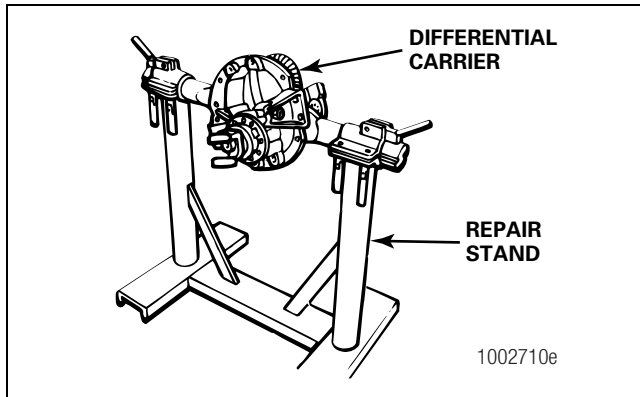
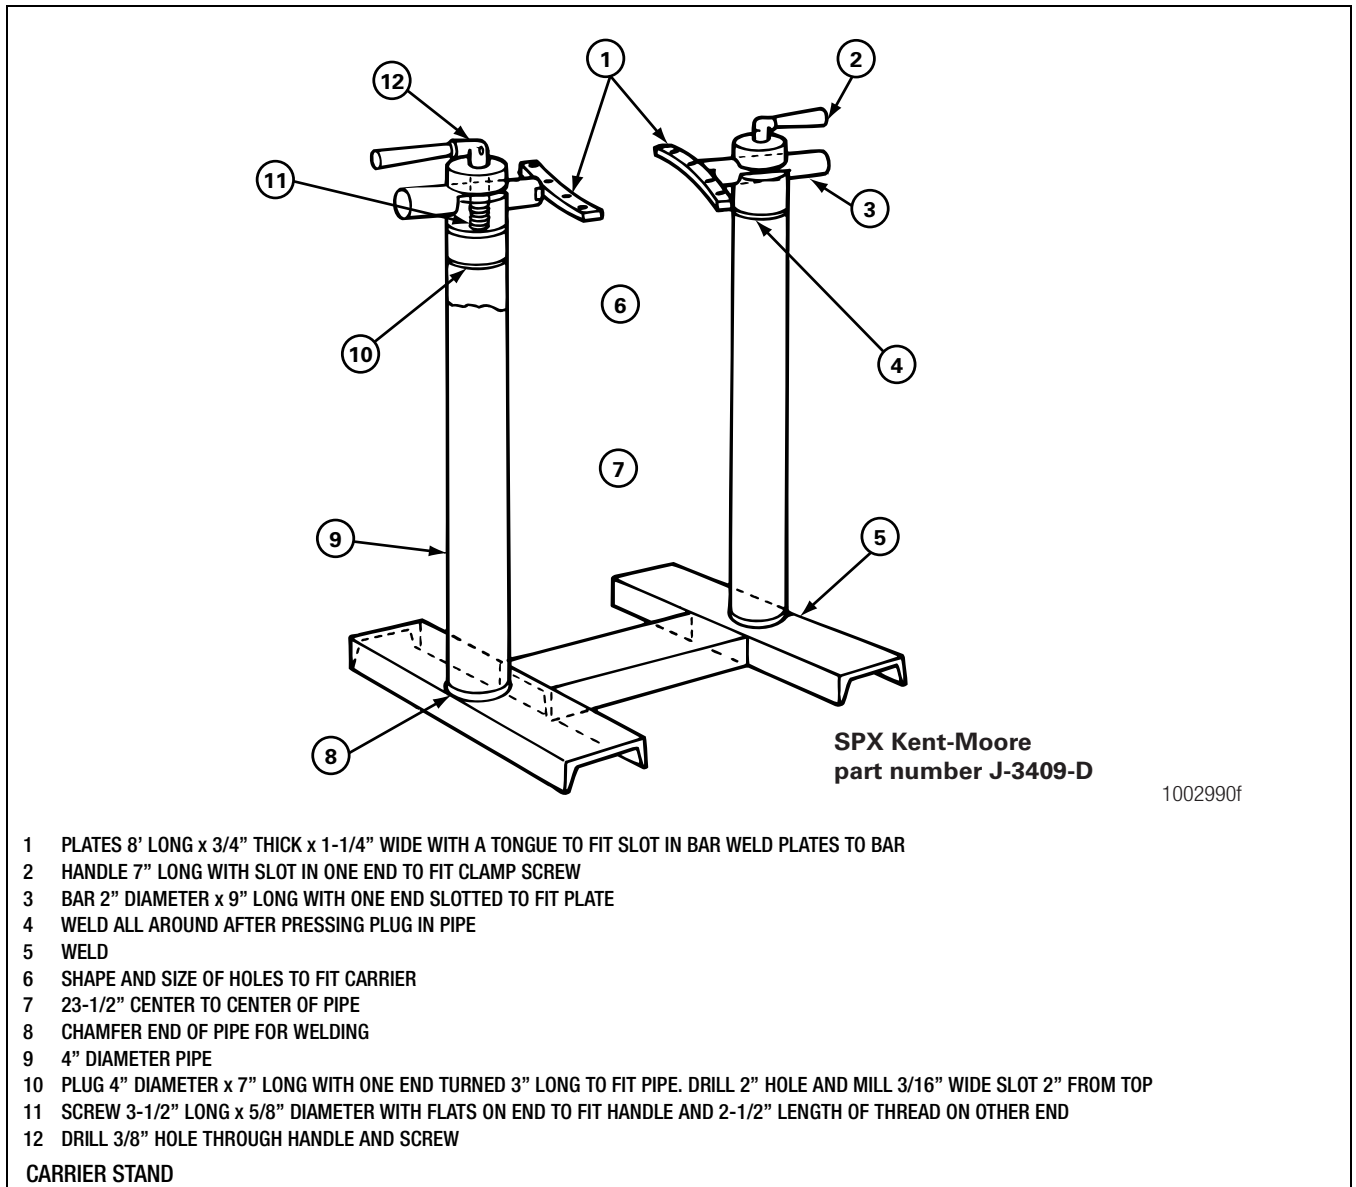

Figure 3.7
Figure 3.8
- Use a lifting tool to lift the differential carrier by the input yoke or flange and place the assembly in a repair stand. Figure 3.7. Do not lift by hand. A carrier stand can be built by referring to Figure 3.8.